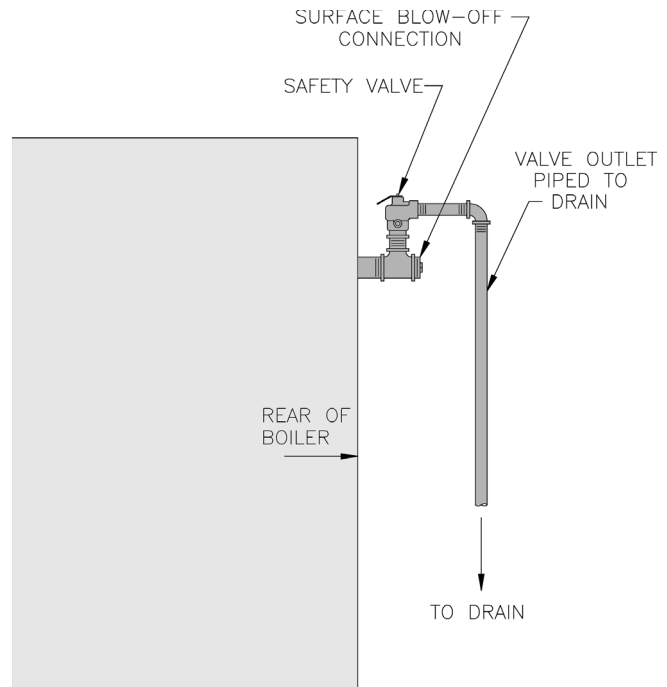

Figure 42: Steam Boiler - Pressure Relief Valve Hook-Up
1. Oil, greases & sediments which accumulate in a new boiler and piping must be removed in order to prevent an unsteady water line and carry over of the water into the supply main above boiler. Operate the boiler with steam in the entire system for a few days allowing the condensate to return to the boiler. If the condensate can temporarily be wasted, operate boiler only for the length of time it takes for condensate to run clear. If the latter cannot be achieved or if the condensate is returned to the boiler, boil out the boiler using the SURFACE BLOWOFF connection. See Figure 42.